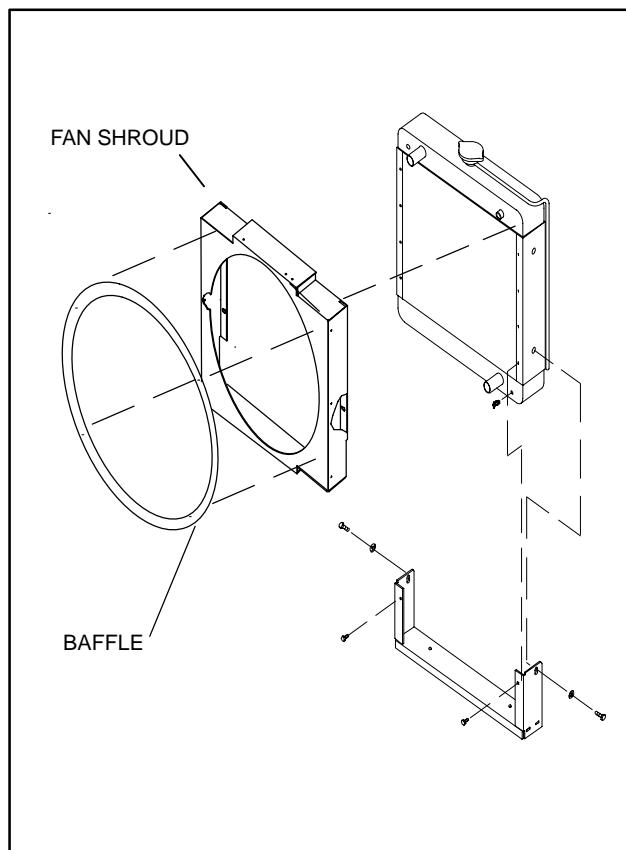

Figure 1. Kit Installation
8. Remove the four bolts that hold the radiator to the radiator mounting bracket. See Figure 1.
15. Using the fan baffle as a template, make four holes on the fan shroud on the side facing the engine. Mount the fan baffle to the fan shroud, using the four screws included in the kit. See Figure 1.